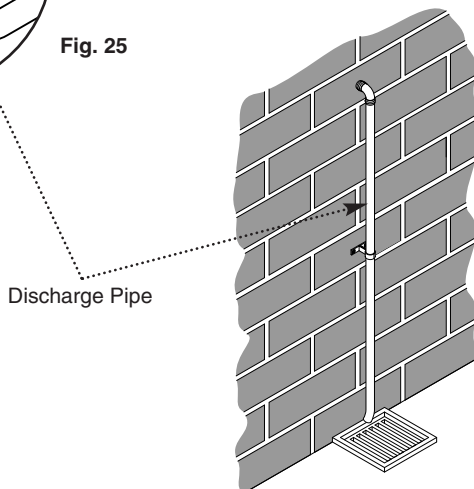

Fig. 26
3. The pipework must be at least 15mm diameter and run continuously downwards to a discharge point outside the building (Fig. 26). See section 6.7 for further details.